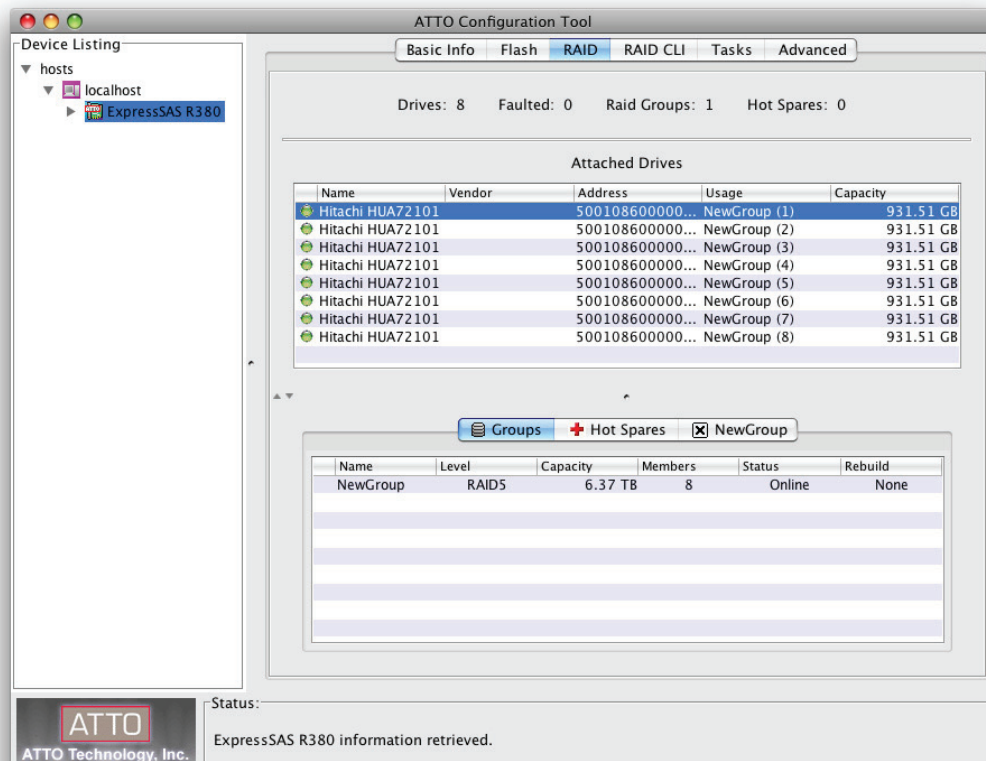

Figure 4
- The **RAID** tab provides information about attached drives, their RAID group and Hot Spare associations, and their operating status. With the RAID tab selected, you can create, modify, and delete RAID groups. You may also schedule or start diagnostic and maintenance procedures, start individual drive performance testing, and send commands to attached enclosures to identify drives. See **Figure 4** on page 4.